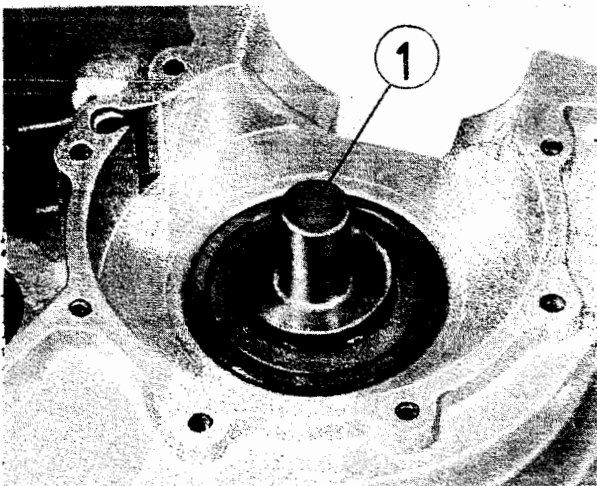

Fig. 61. Heating the inner track ring
- Heat the inner track ring of the 6306 bearing already in the casing by means of a heating mandrel (1 in Fig. 61);
- If, due to hesitating in fitting or insufficiently heated inner track ring, the crankshaft jams, the latter can be properly fitted by means of the pipe (1) and the upper part of the clutch tensioning device (2) 05 MW 150-2. (The pipe is no special tool, sketch for self-construction is included in the Appendix);